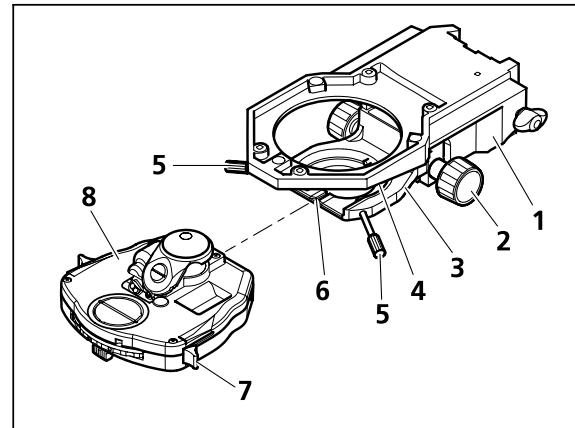

Fig. 3-19 Mounting the condenser
- Open the frontal optic (if switchable) on the condenser with the lever (Fig. 3-19/7). Unscrew both centering screws (Fig. 3-19/5) on the condenser carrier until you cannot see the end parts anymore.
- Slide the condenser carrier (Fig. 3-19/3) with the gear knob for vertical adjustment (Fig. 3-19/2) all the way down.
- Insert the condenser (Fig. 3-19/8) between the condenser carrier (Fig. 3-19/3) and the stage carrier (Fig. 3-19/1). Adjust the pin screw on the bottom of the condenser in direction of the slot (Fig. 3-19/6).
- Press the condenser with the dovetail ring against the spring box (Fig. 3-19/4) of the condenser carrier until the condenser can be placed on the condenser carrier horizontally.
- Release the condenser and its pin screw will slide into the front slot (Fig. 3-19/6).